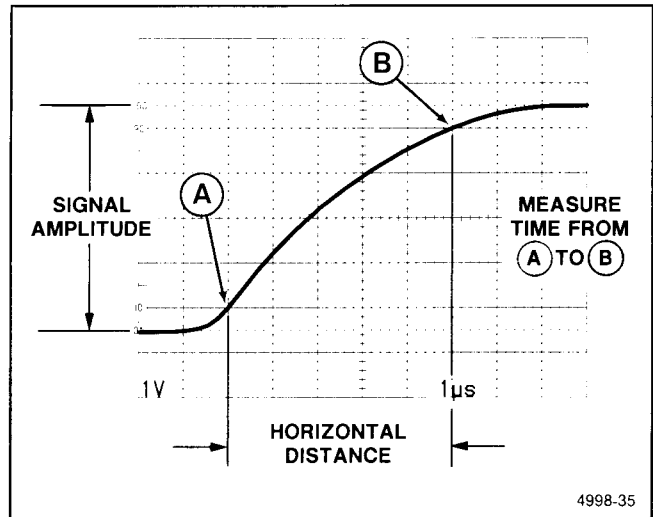

Figure 6-22. Rise time.
EXAMPLE: The horizontal distance between the 10% and 90% points is 5 divisions (see Figure 6-22), and the A SEC/DIV switch is set to 1 μs . The X10 magnifier knob is pushed in (1X magnification).
Rise-time measurements use the same methods as time duration, except that the measurements are made between the 10% and 90% points on the leading edge of the waveform (see Figure 6-22). Fall time is measured between the 90% and 10% points on the trailing edge of the waveform.
4. Adjust vertical positioning so that the zero reference of the waveform touches the 0% graticule line and the top of the waveform touches the 100% graticule line (see Figure 6-22).
6. Horizontally position the display so the 10% point on the waveform intersects the second vertical graticule line (see Figure 6-22, Point A).